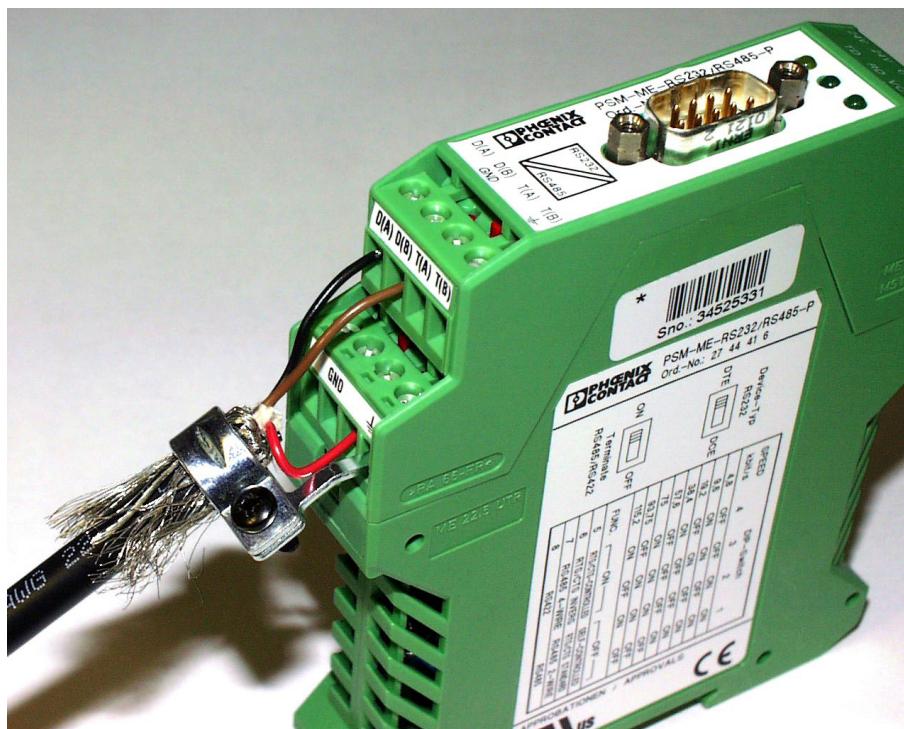

Fig. 8.2. Connecting the RS485-converter
Preparing and Connecting the Cable to the Converter (Fig. 8.2):
- Connect the 3 wires to the terminals on the RS-485/RS-232 converter (as shown in Fig. 8.2).